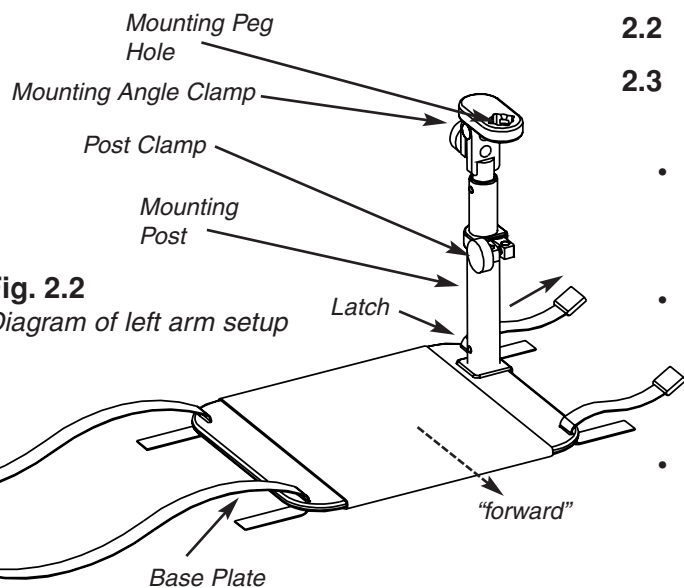

Fig. 2.2
- To change from left to right arm application, lift the latch and slide the mounting post off of the base plate. (See Fig. 2.2)